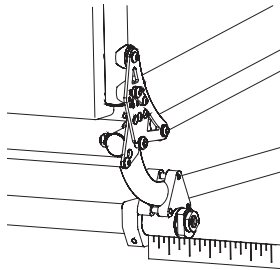

Figure 76
1. Make sure the distance from the end of the camber tube to the camber mount clamp is identical on both sides of the chair. See Figure 76.